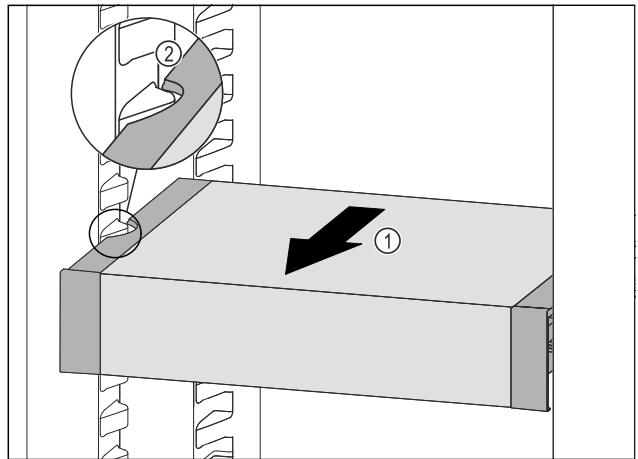

Fig. 121
- ▶ Pull VarioSafe forwards *Fig. 121 (1)* until the recesses in the side of the VarioSafe are at the level of the support rib in the fridge section. *Fig. 121 (2)*